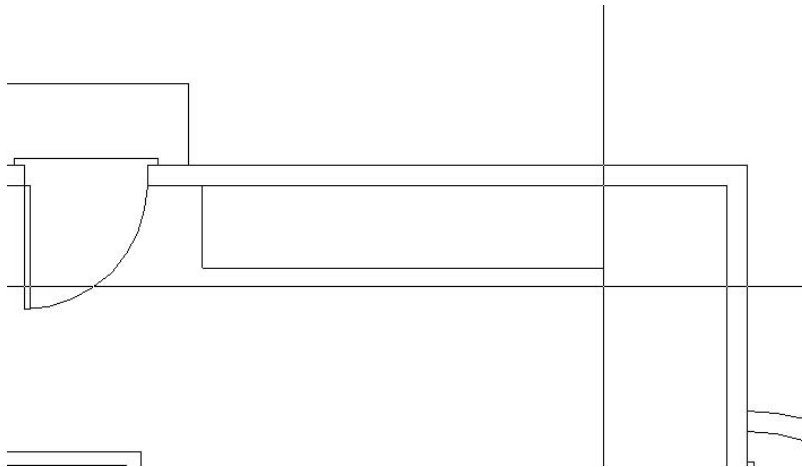

FIGURE 5.15: Drawing the counter using the Direct Entry technique
1. Use a zoom window to zoom your view so it is about the same magnification as Figure 5.15. On the status bar, click the Polar button to turn Polar Tracking back on if it is not already on. The Model and Polar buttons should be in the on position. The rest of the buttons should be off, unless you prefer to have the Dyn button on to dynamically display drawing input information in the drawing area.
4. Hold the crosshair cursor directly below the first point of the line and type **2'**. Hold the crosshair cursor to the right and type **9'10** (see Figure 5.15, shown earlier). Select the Perpendicular Osnap and pick the inside wall line again. Press **↵** to end the Line command. The counter is drawn.